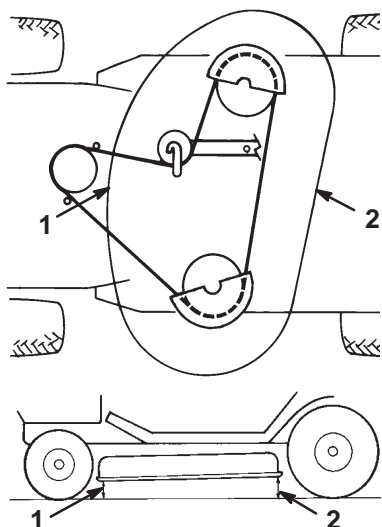

Figure 50
12. Check the front-to-rear slope by measuring between the bottom of the mower (front center and rear center) and the flat surface (Fig. 50). If the front is not within a range of 1/8 to 3/8 in. (3 to 10 mm) lower than the rear, an adjust it.